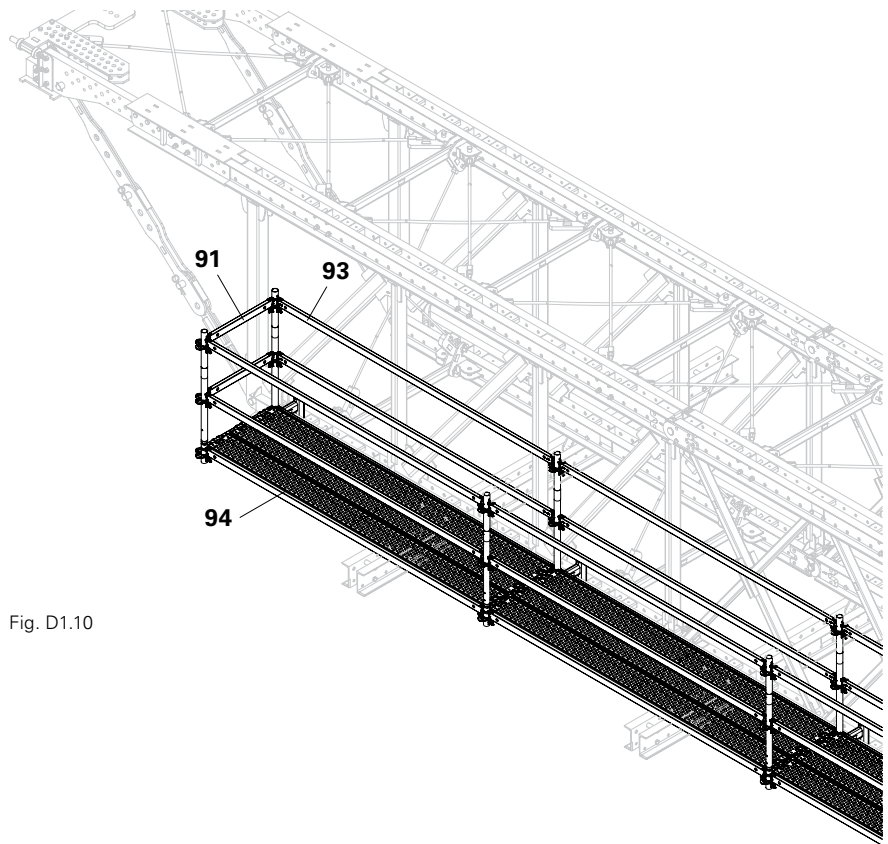

Fig. D1.10
5. Place three Steel Decks (94) in the field.
6. Hook additional ledgers (91) and (93) into the rosettes of the Top Standards (90) and (95) as guardrails on the outer sides.
- (Fig. D1.10)